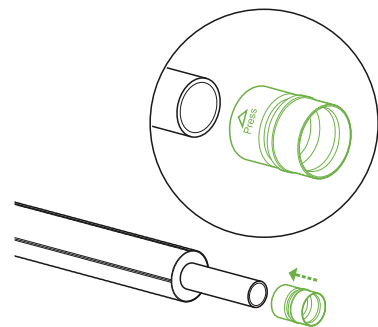

Fig. B11.1.2
4. Place the outer sleeve onto the service pipe with the skirt toward the pipe end with the cut insulation layer. The press arrow marking on the sleeve should be pointing towards the pipe end (see Fig. B11.1.2).